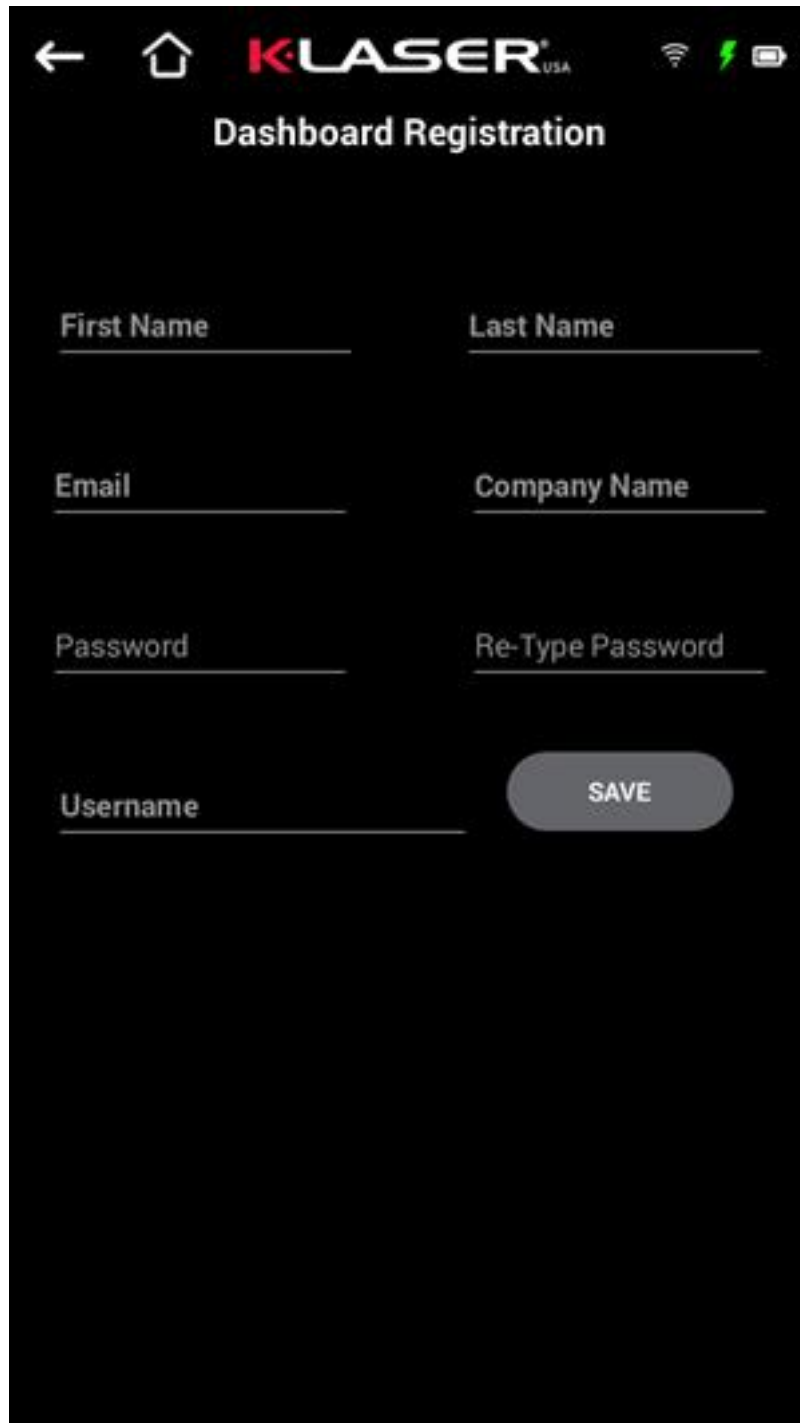

Figure 14: User Registration interface
6) Click "DASHBOARD REGISTRATION" to enter the user registration interface (Figure 14), you can fill in user-related information and change the password and other operations.